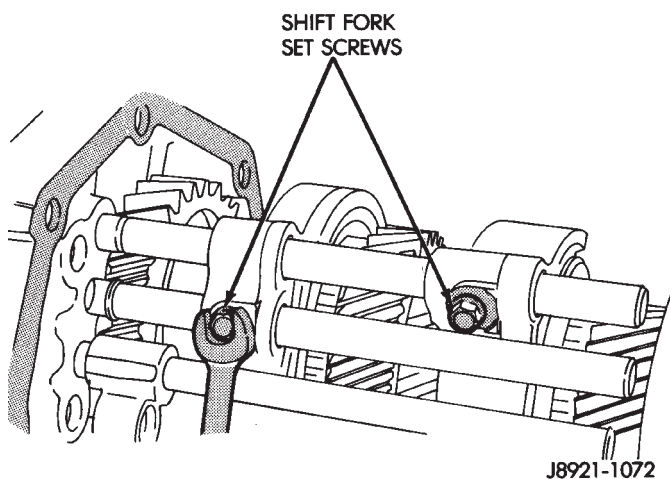

Fig. 90 Install Shift Fork To Shift Rail Bolts
(19) Install new bolts to hold the shift forks to the shift rails (Fig. 90).